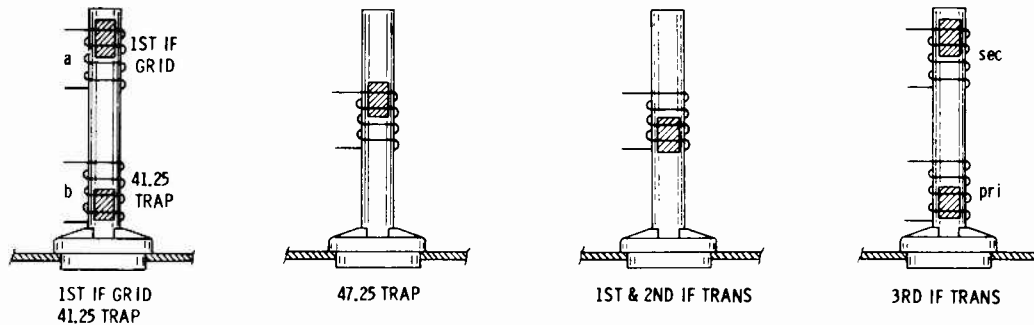

FIGURE 6. COIL CORE POSITIONS
5. All coil slug tuning positions, in relation to chassis, are given in the procedure chart and in the separate detail of Figure 6.